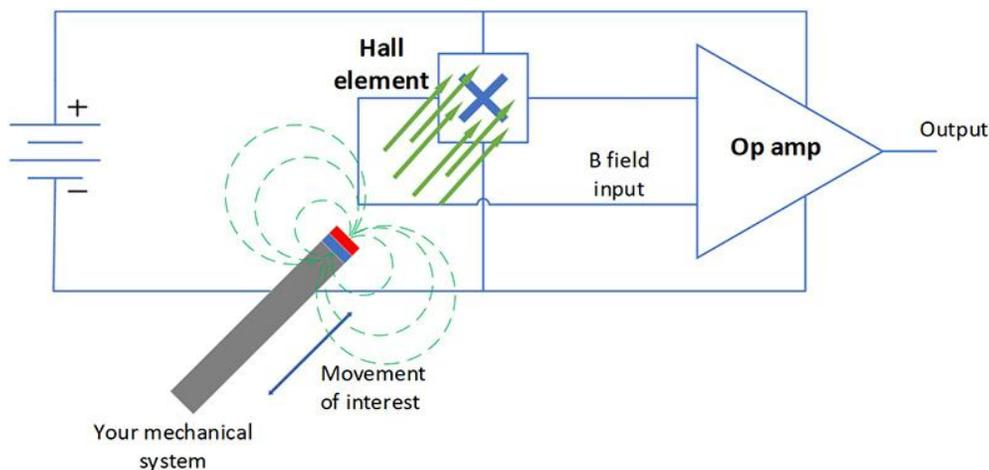

Figure 1: A basic Hall-effect sensor
A Hall-effect sensor is not your typical integrated circuit (IC), because unlike most ICs, it indirectly interacts with its key “circuit” – a magnet! As shown in Figure 1, the elementary Hall-effect sensor comprises a Hall element, which turns a magnetic field into a voltage, and processing circuitry such as an operational amplifier. Both analog and digital processing circuitry are critical to a Hall-effect sensor's operation because the output voltage from a Hall element is tiny – sometimes in the microvolt range. One of the simplest Hall-effect sensors uses only three-pin packages, small-outline transistor (SOT)-23 or transistor outline (TO)-92, for the power supply, ground connection and output.
Magnetic fields are never straight lines, as they extend from one pole to the other, but Figure 1 shows straight lines impinging on the sensor for simplicity. Knowing exactly how these field vectors behave in space allows you to do many creative things with them. Check out the application notes on TI's Magnetic Sensors Support and Training page for some basic ideas.